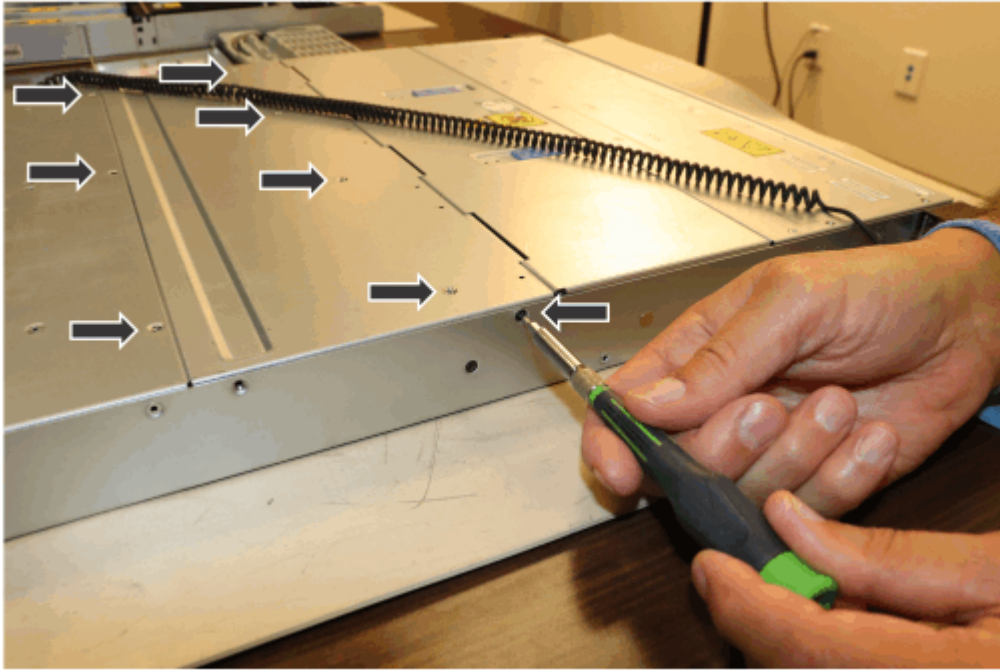

Figure 72. Enclosure fan cover mounting screws
- a) Using a T8 Torx driver, remove the nine mounting screws, as shown in Figure 72 on page 133.
3. Place the new fan cover onto the enclosure, and reinstall the nine screws to secure the cover, as shown in Figure 72 on page 133.